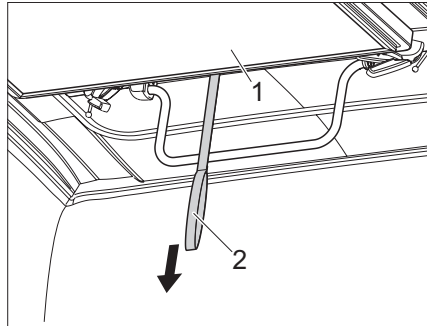

Fig. 36 Pulling down the bed
- ▶ Pull down the bed (Fig. 36,1) by the strap (Fig. 36,2).
- ▶ Pull down the bed (Fig. 36,1) before closing the pop-up roof. Do not pull down the bed and the pop-up roof simultaneously.